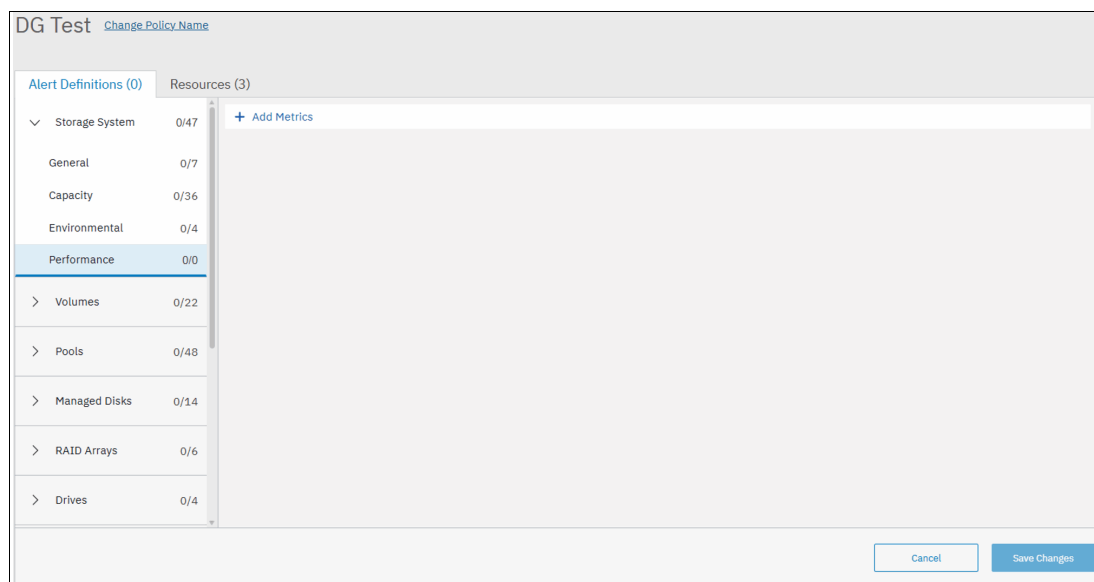

Figure 7-10 Add Metrics
3. You see the window that is shown in Figure 7-10. This window is where you add metrics to the alert. You can see an extensive list of possible metrics that are grouped by resource type, and for the Storage System the type of alert. For more information about these metrics, see Alerting. To configure alerts for CRC errors, select **Performance**.